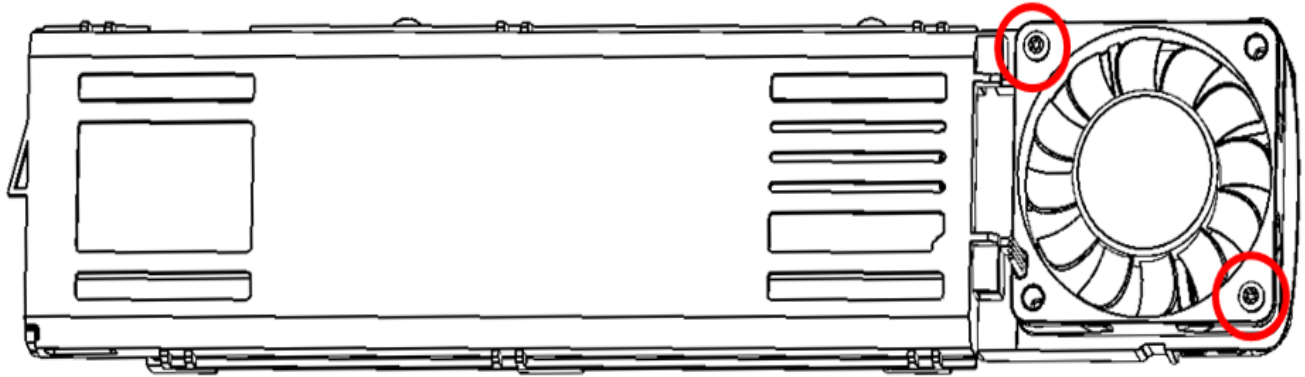

**Figure 5-16.** Fan and Battery Compartment Separation
1. Remove the two screws securing the fan to the battery compartment as shown in Figure 5-16.